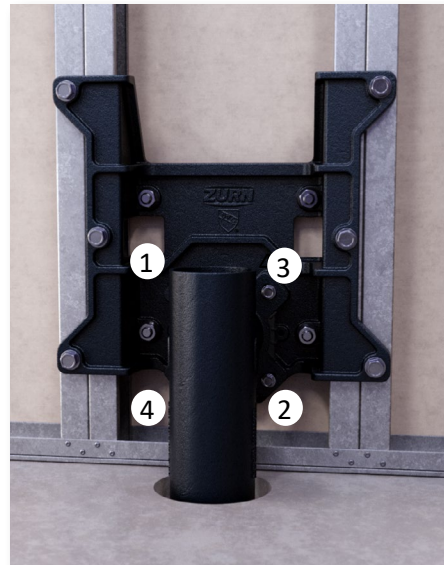

Figure 6
5. Tighten the (4) bolts in a star pattern and torque to 22-28 in-lbs [2.5-3.2 N-m]. (Figure 6)